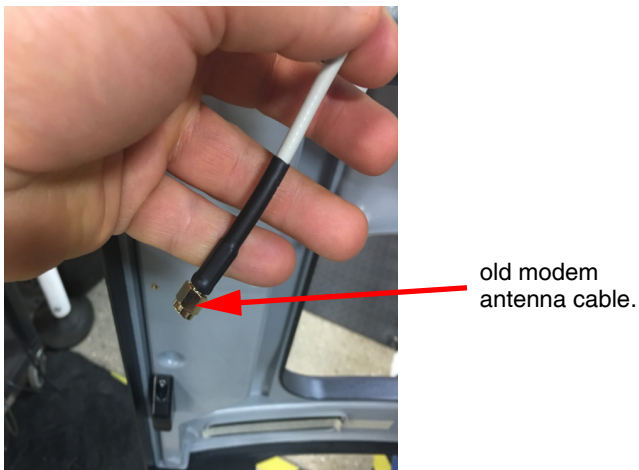

Figure 20.1
28. The 'old' modem antenna cable left behind (Figure 20.1) can be coiled up and secured the door service panel or inside the main unit. be sure this cable does not interfere with any other component or unit operation.